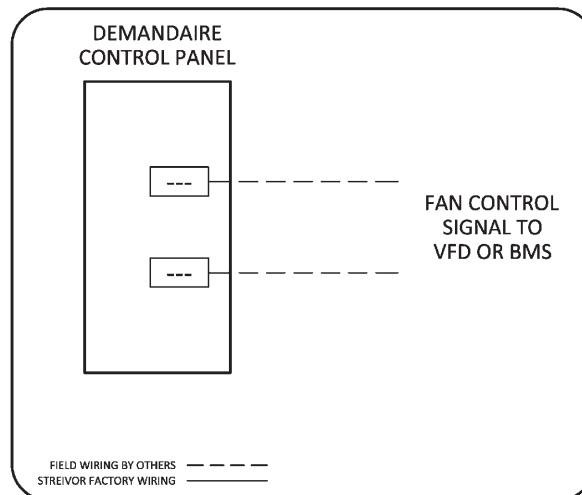

FIGURE 2: Fan Control Wiring
- Connect the terminal blocks in the control panel designated for the 4-20mA or 0-10VDC fan control signals to the appropriate external destination (*Figure 2*) (i.e. VFDs, BMS, EC Motors, VAV, etc.)